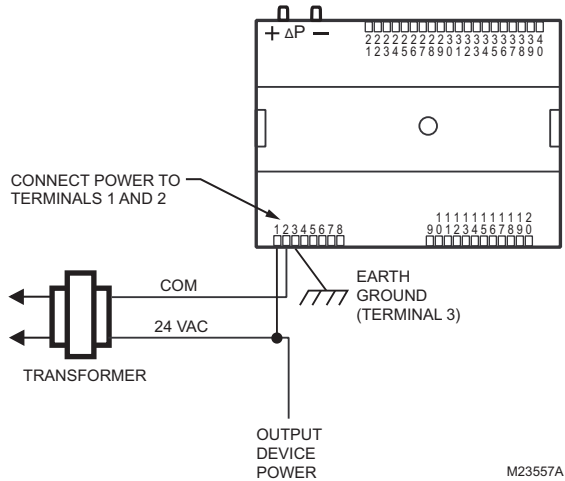
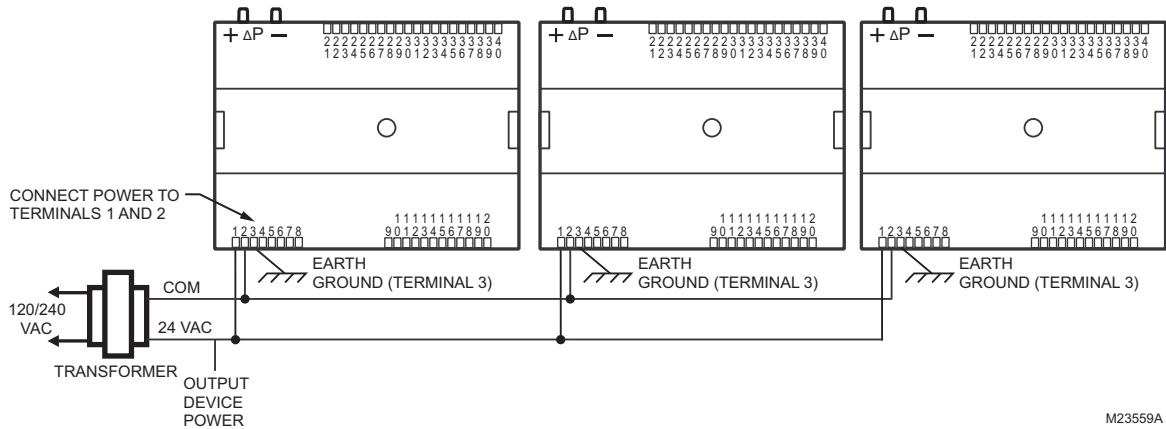

Fig. 10. Power wiring details for one controller per transformer.
Fig. 12. Power wiring details for two or more controllers per transformer.
- For multiple controllers operating from a single transformer, the same side of the transformer secondary must be connected to the same power input terminal in each controller. Controller configurations will not necessarily be limited to three devices, but the total power draw, including accessories, cannot exceed 100 VA when powered by the same transformer (U.S. only). For power and wiring recommendations, see “Wiring” on page 5. The earth ground terminal (terminal 3) must be connected to a verified earth ground for each controller in the group (see Fig. 12 on page 7).
- Do not connect the universal input COM terminals, analog output COM terminals or the digital input/output COM terminals to earth ground. Refer to Fig. 10–Fig. 12 for wiring examples.
Fig. 10 depicts a single controller using one transformer.
More than one controller can be powered by a single transformer. Fig. 12 shows power wiring details for multiple controllers.